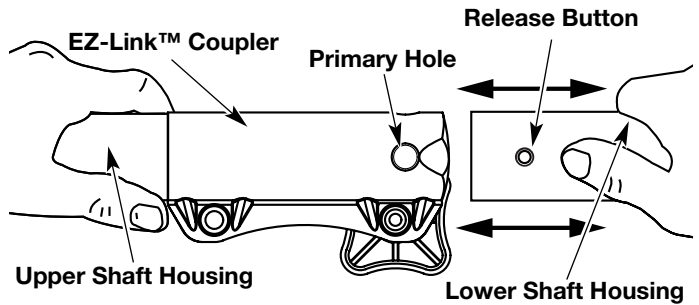

Fig. 10
3. While firmly holding the upper shaft housing, pull the cutting attachment or add-on straight out of the EZ-Link™ coupler (Fig. 10).
2. While firmly holding the add-on, push it straight into the EZ-Link™ coupler (Fig. 10).
**CAUTION:** Lock the release button in the primary hole (Fig. 10) and securely tighten the knob before operating this unit.